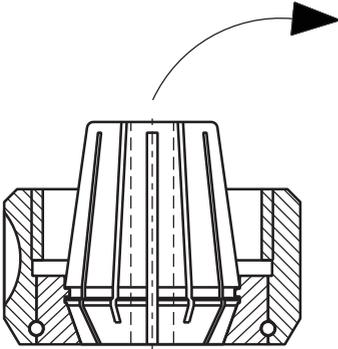

Fig. 3
(see Fig. 3 and 4)
4. Remove the collet from the clamping nut by lateral pressing (see Fig. 3).